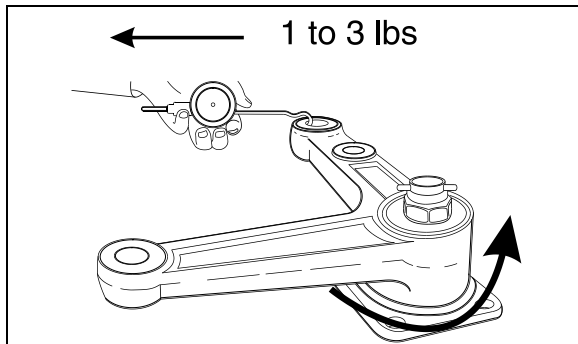

FIGURE 19: BELL CRANK 16045
11. Unscrew nut until bell crank or idler arm starts to turn with the application of 1 to 3 lbf load as shown on figure 19.